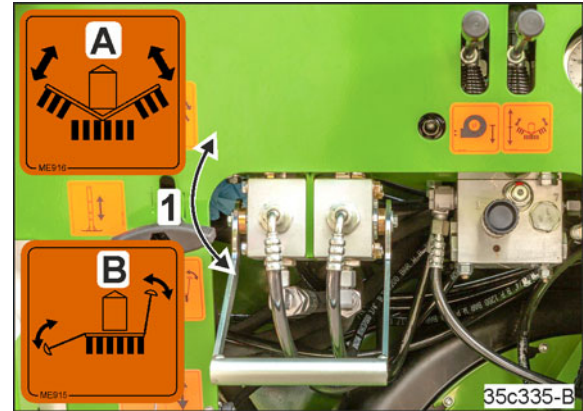

Fig. 229
1. The valve lever (Fig. 229/1) is in position "B".
3. Set the valve lever (Fig. 229/1) to position "A".